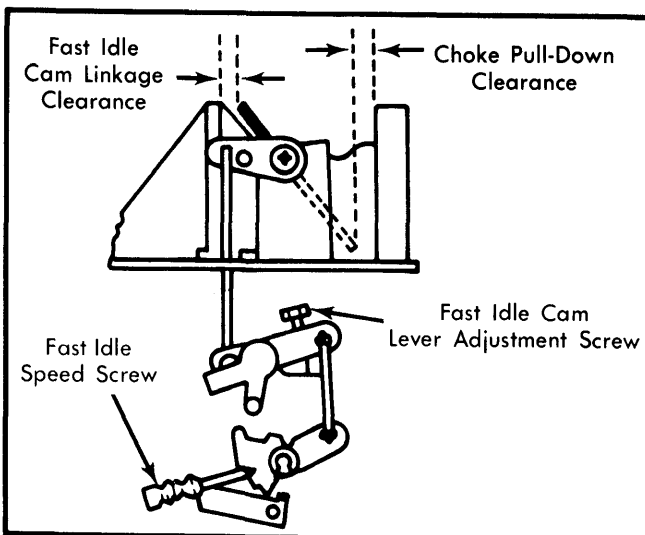

Fig. 5 Clearance Locations for Fast Idle Cam and Choke Valve Pull-Down Adjustment
- 3) Measure clearance between upper edge of air horn wall and upper edge of choke valve. See Fig. 5.